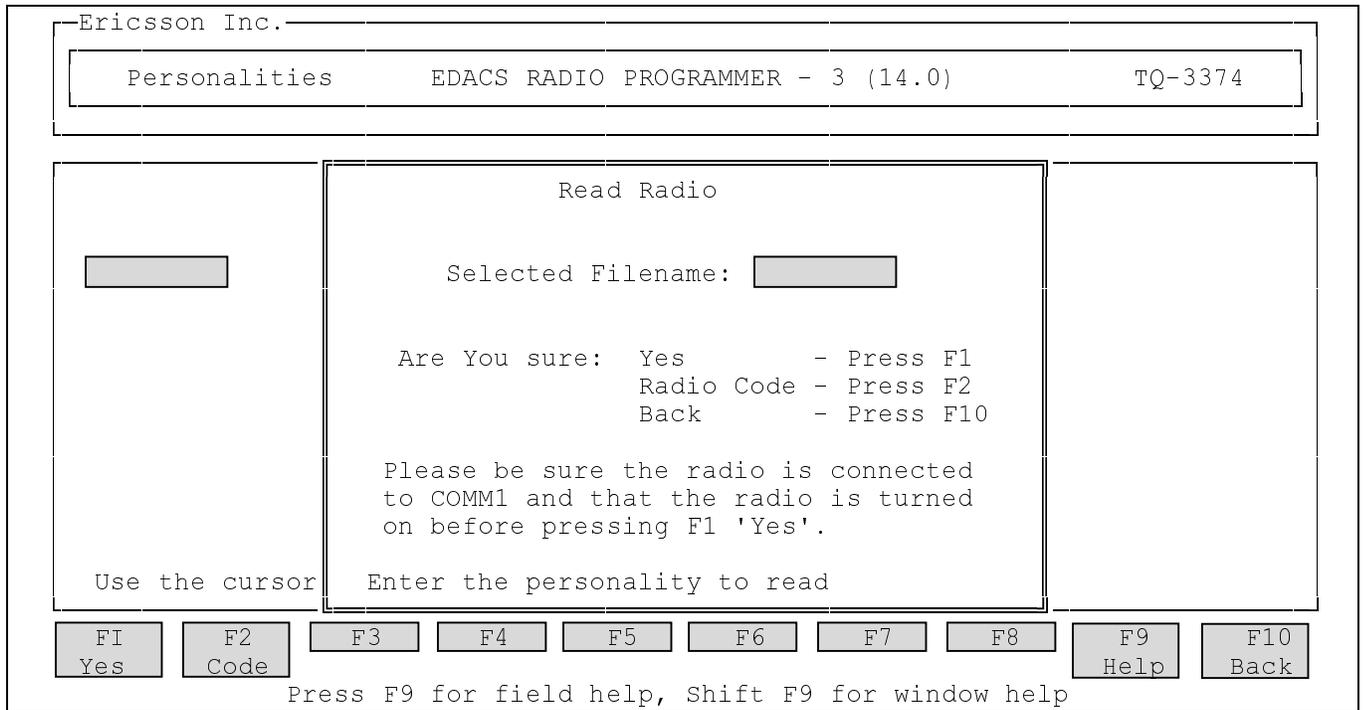

Figure 3 - Read Radio Window
- Using the **Current Personality** screen as the starting point, press the **F6** (Read) function key to bring up the **Read Radio** window in front of the **Current Personality** screen (see Figure 3).